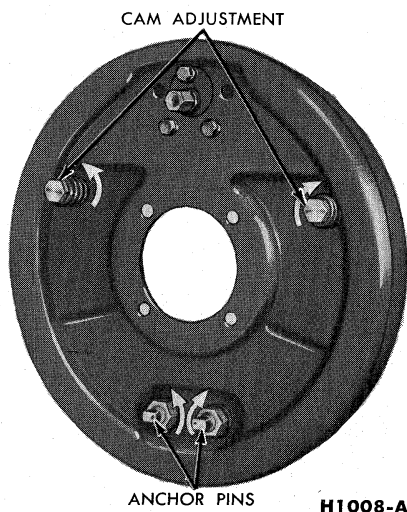

FIG. 5—Double Anchor Brake Adjustment
one duo-servo (two piston) cylinder at the upper end (Fig. 5).
3. Turn the adjusting cam of the forward (primary) shoe in the direction shown in Fig. 5 until the shoe drags against the drum.
4. Loosen the secondary shoe anchor pin nut (Fig. 5). Turn the secondary shoe anchor pin until the brake shoe-to-drum clearance at a point 1½ inches from the heel end of the shoe is 0.007 inch. Remove the feeler gauge.